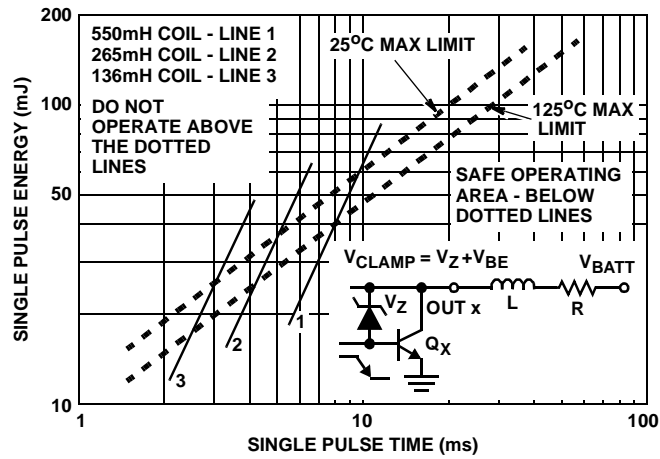

FIGURE 5. CA3292A SINGLE PULSE INDUCTIVE FLYBACK CLAMP ENERGY SOA RATING CHART FOR EACH OUTPUT DRIVER
- The single pulse clamp energy rating for the CA3292A is defined over a range of operating conditions. The Clamp Energy is a function of the Load Inductance, Load Resistance, Clamp Voltage, Supply Voltage, the Saturated ON Resistance ( $V_{SAT}$ ) and the Steady State Load Current at the instant of Turn-OFF. Refer to Figure 5 for the Safe Operating Area when driving inductive loads. Rating limits for Energy vs Single Pulse Width Time are plotted for different coil values. Refer to Application Note - AN9416 for pulse energy calculation methods.
Refer to Application Note AN9416 for additional thermal information. Further information is provided on pulse energy calculation methods for inductive load applications with detail explaining the Safe Operating Area shown in Figure 5. The SOA area for single energy transients is below the dotted lines for the given ambient temperature conditions. The energy locus plots of the three inductive coils were made for arbitrarily chosen values of inductance and are shown here for reference information. The RL time constant, ambient temperature, clamp voltage and the stored energy in the coil determine the SOA limits.